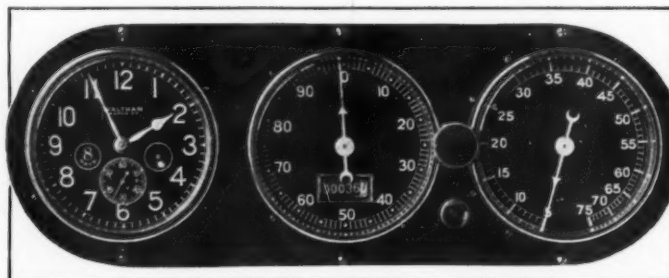

Fig. 4—The Hoffecker electric odometer
**Hoffecker Electric Odometer**—The Hoffecker Co., Boston, is making deliveries to builders of electric passenger cars of its electric odometer, Fig. 4, which resembles a speedometer, excepting in that it measures distances traveled, these being registered on a circular dial the same as speeds of travel are indicated on a speedometer. The dial reads to 100 miles, the reason being that the capacity of battery on one charge is generally lower than this. In the bottom of the dial space is a season odometer for 100,000 miles.